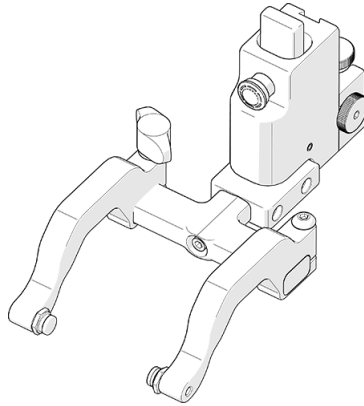

Figure 3-34 90° Probe holder positioning
2. Orient the yoke to the front of the probe holder and screw the yoke into the threaded hole provided (see Figure 3-34 on page 64).